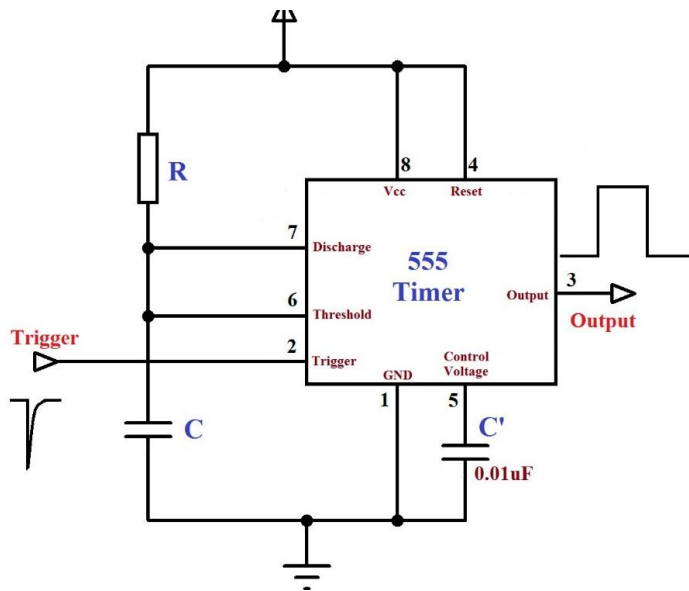

Fig 3. Monostable Multivibrator using 555 Timer
- This is the circuit diagram of 555 Timer shown in figure 3 wired in Monostable mode.